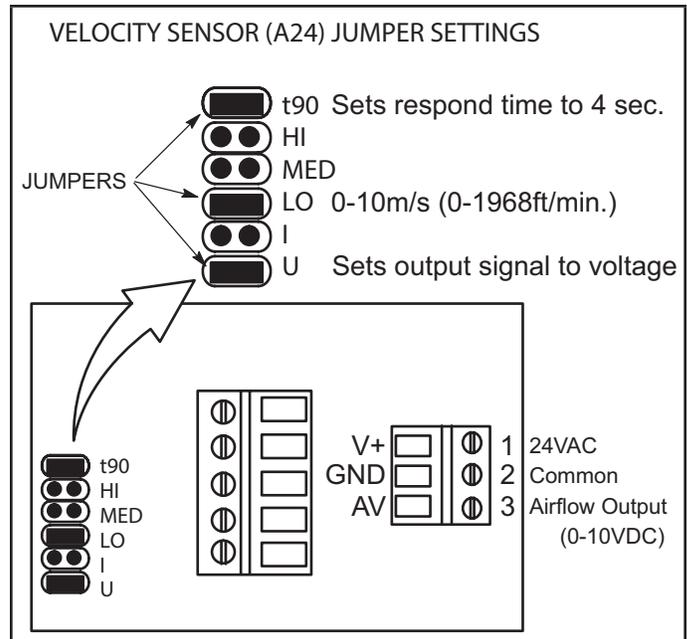

FIGURE 42
NOTE - The configuration ID setting (H) must be paired with the "low" jumper position on the A24 control (see FIGURE 42). The jumper is factory-set at low range (0 - 1968-ft/min).